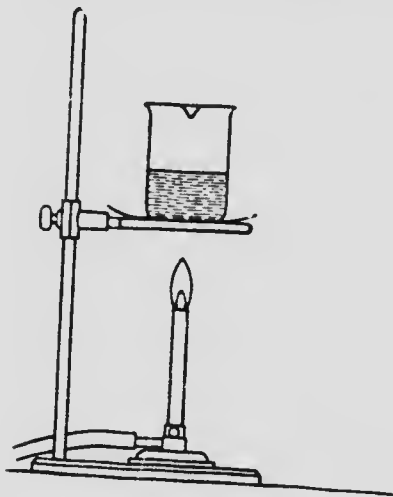

FIG. 10.
(b) *Flasks and beakers* may be heated on a wire gauze as in Figs. 10 and 34. Care must be taken not to use too large a flame or to heat too rapidly. Hold the burner in the hand and warm the flask or beaker slowly by moving
(3) Boil 25 cc. of water in a beaker or flask. (Fig. 10.)